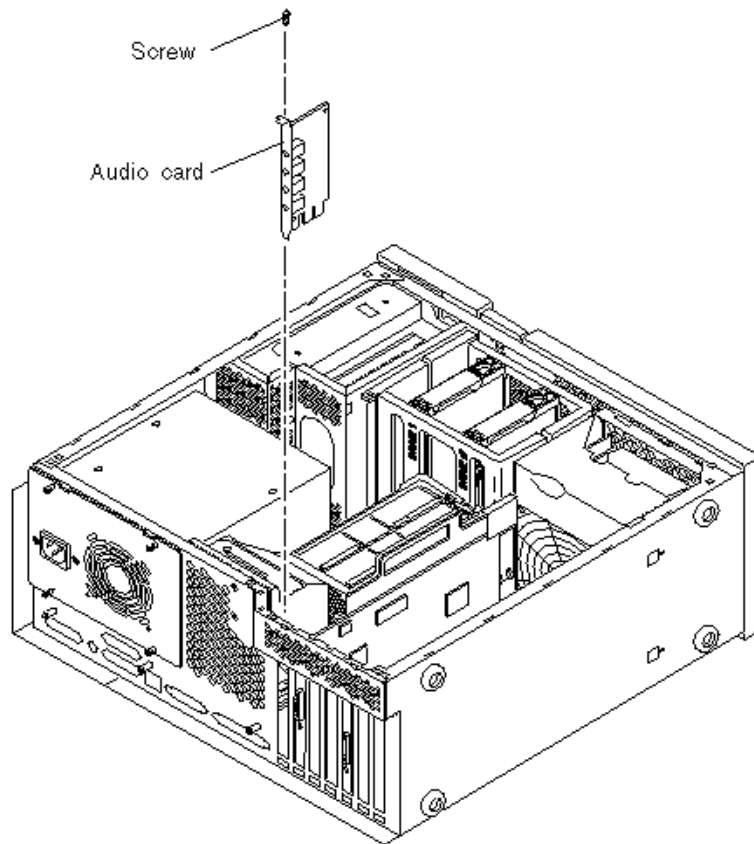

Figure 10-6 Removing and Replacing the Audio Card
5. Remove the audio card as follows (Figure 10-6):
1. **Replace the audio module as follows (Figure 10-6):**